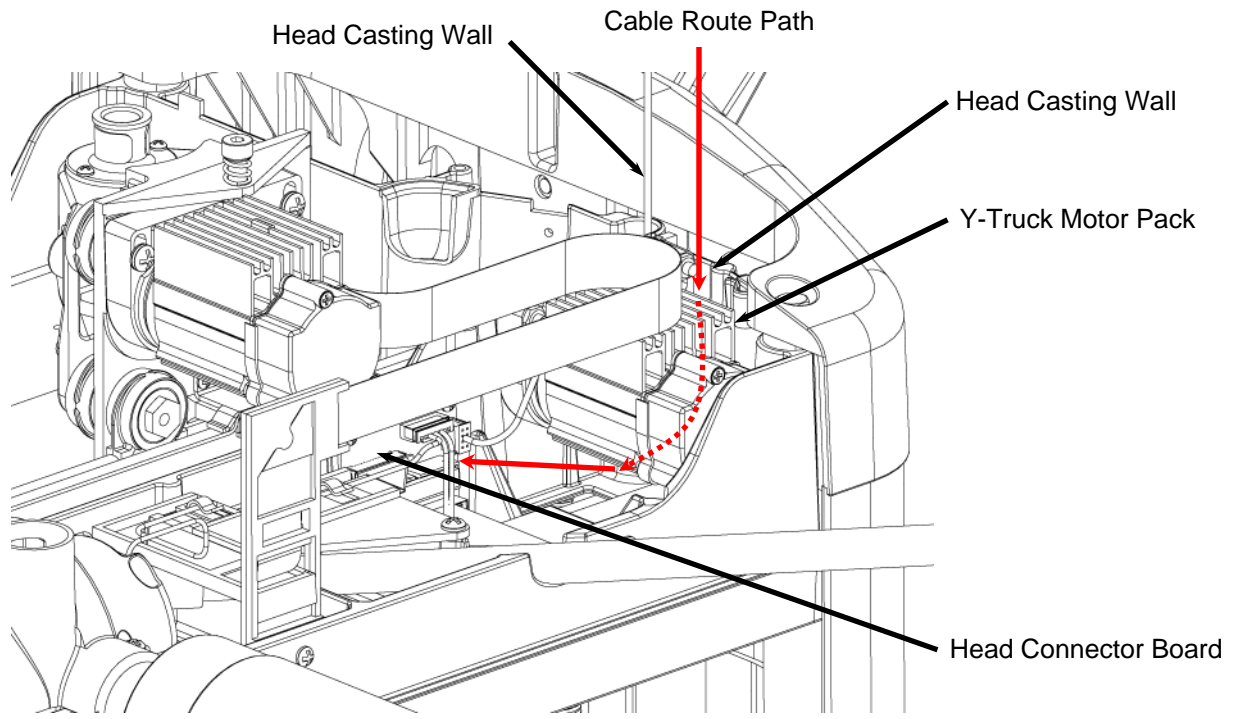

FIGURE 16: ROUTING THE HEAD CABLE HARNESS
- c. Route the Head Cable Harness down between the wall of the head casting and the side of the Y-motor pack, under the Y-motor pack and plug it into the connector board as shown in Figure 16. Make sure that the connector is oriented correctly using the keying ribs and slots before plugging it in. Note that the white wire will be oriented toward the non-keypad side of the machine.